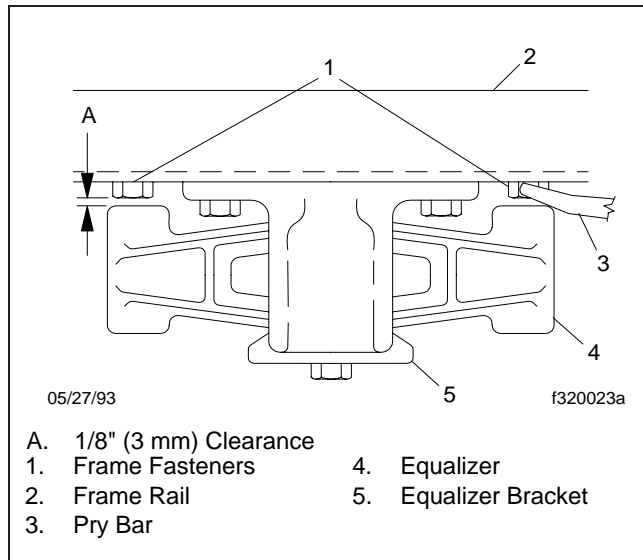

Fig. 4, Side View of the Equalizer
7. With the vehicle unloaded, attempt to move the equalizer side to side, using a pry bar between the equalizer and frame rail. Apply hand pressure only. See **Fig. 4**. If clearance between the equalizer assembly and any frame component or fastener is less than 1/8 inch (3 mm), replace the equalizer bushings. See **Group 32** of the *Condor® Workshop Manual* for instructions.